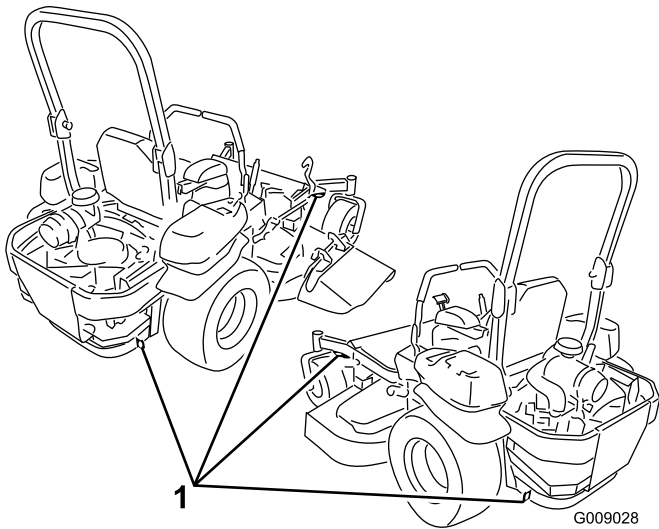

Figure 32
5. Use the metal tie-down loops on the machine to securely fasten the machine to the trailer or truck with straps, chains, cable, or ropes (Figure 32).